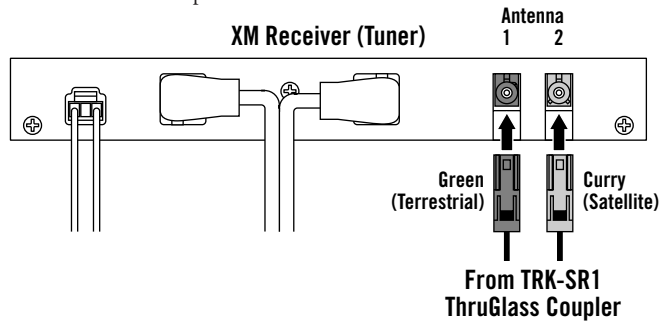

Figure 13. Wiring diagram shows antenna connections to an XM receiver.
- If the XM system is not already installed, temporarily connect power and ground to the system. Temporarily connect the ThruGlass Coupler to your XM receiver, as directed by the receiver's manufacturer (see Figure 13 below). Set the ThruGlass Coupler aside in a safe area.